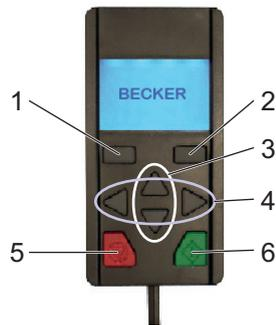

Fig. 3: Function of keys
1. Connect the MMI manual control unit (2) to the M12 interface (5) of the VAU (1) using the included connection cable (4).
2. As soon as the VAU is supplied with power (mains voltage or external +24 V on the controller terminal), a blue illuminated start screen (→Fig. 3) with "BECKER" logo appears on the MMI.